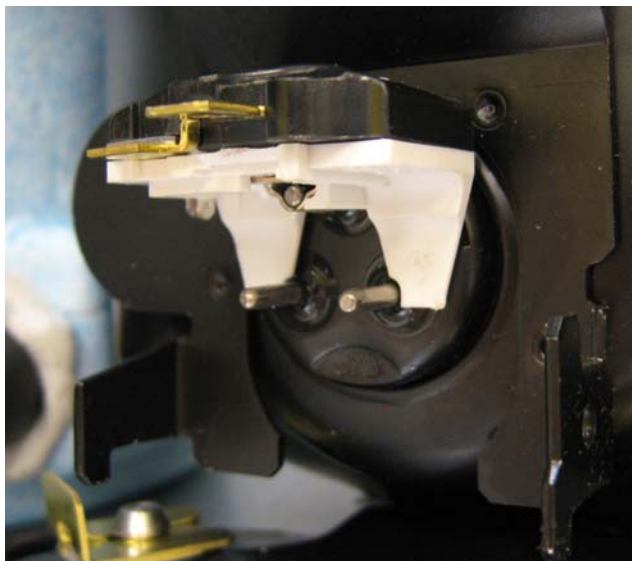

Figure 3
- STEP 5:** Remove the compressor relay (the component with the copper coil) by pulling it away from the compressor. (See Figure 3).